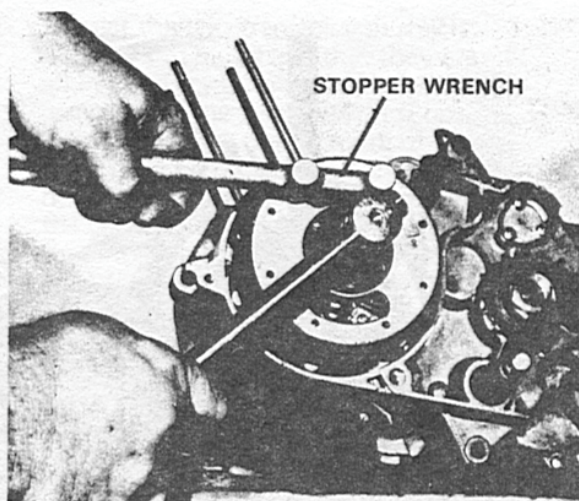

Fig. 5
22. Position the engine on the bench, magneto side up. Hold the magneto stationary with the stopper wrench (special tool) and, using a socket wrench, remove the magneto retaining nut and lock washer. (Figure 5)